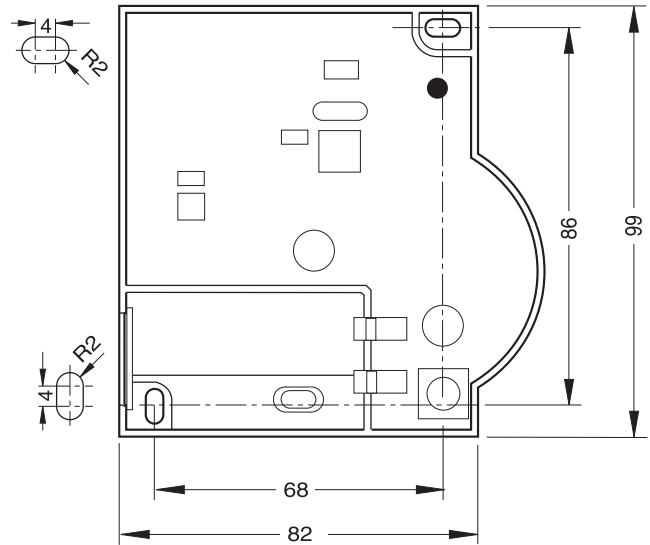

Fig. 3: Drilling scheme (measurements in mm)
- ▶ Mark the drill holes according to the drilling template (see Fig. 3).